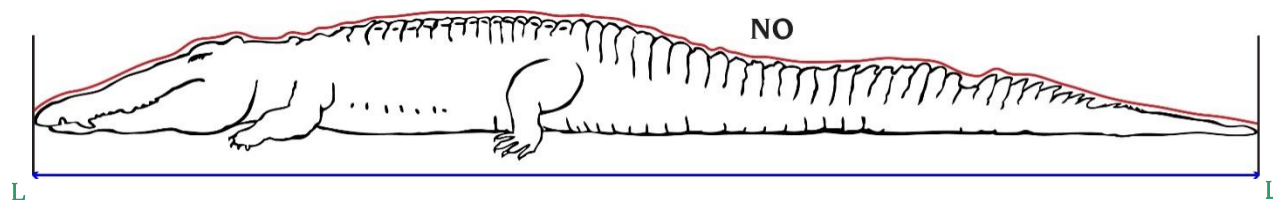

Figure 1
Rowland Ward measures crocodilians in a straight line between the pegs and **not** following the contour line of the body from nose to tail. (Figure 1) The body contour, scales and depression over the spine add considerably to the measurement. Also some specimens are considerably more bulky in the middle, depending on two factors: a) the size of recent meals, and b) the amount of time elapsed after death because crocodilians bloat after dying and both factors that will increase an “over the body” contour measurement.
1. Length. Lay the crocodile on a flat piece of terrain that is cleared of debris such as rocks and sticks. This is important in order to get a proper measurement. Pull the nose and tail of the reptile into a straight line, and then drive in pegs at each end. Make sure the pegs are at a 90-degree angle to the ground. Remove the crocodile. Take the measurements between pegs along the ground. Care should be taken to measure from where the peg is entered in the ground in a straight line to where the second peg touches the ground. The terrain must be flat and the tape measure must not be pushed into depressions or lifted up by sticks or rocks. Measurements should be taken to the nearest quarter-inch (or centimeter). Do not measure over the contours of the body of the animal. (See red line in Figure 1.) Make a photo of the animal in such a manner so that the pegs can be seen with the animal and submit this photo.